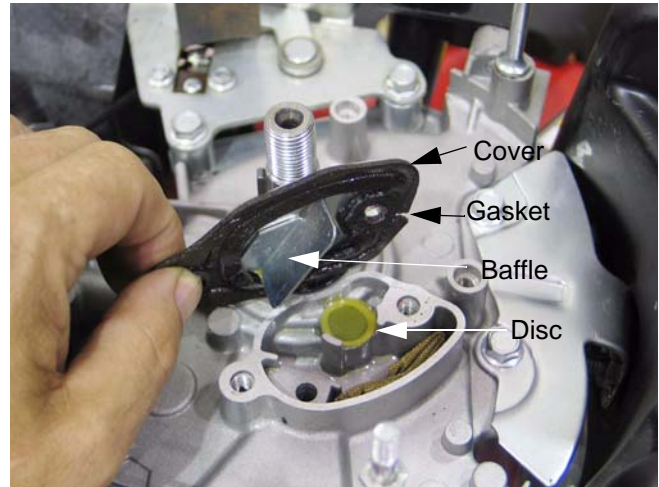

Figure 2.7
7. The cover and gasket can be separated from the chamber. See Figure 2.7.